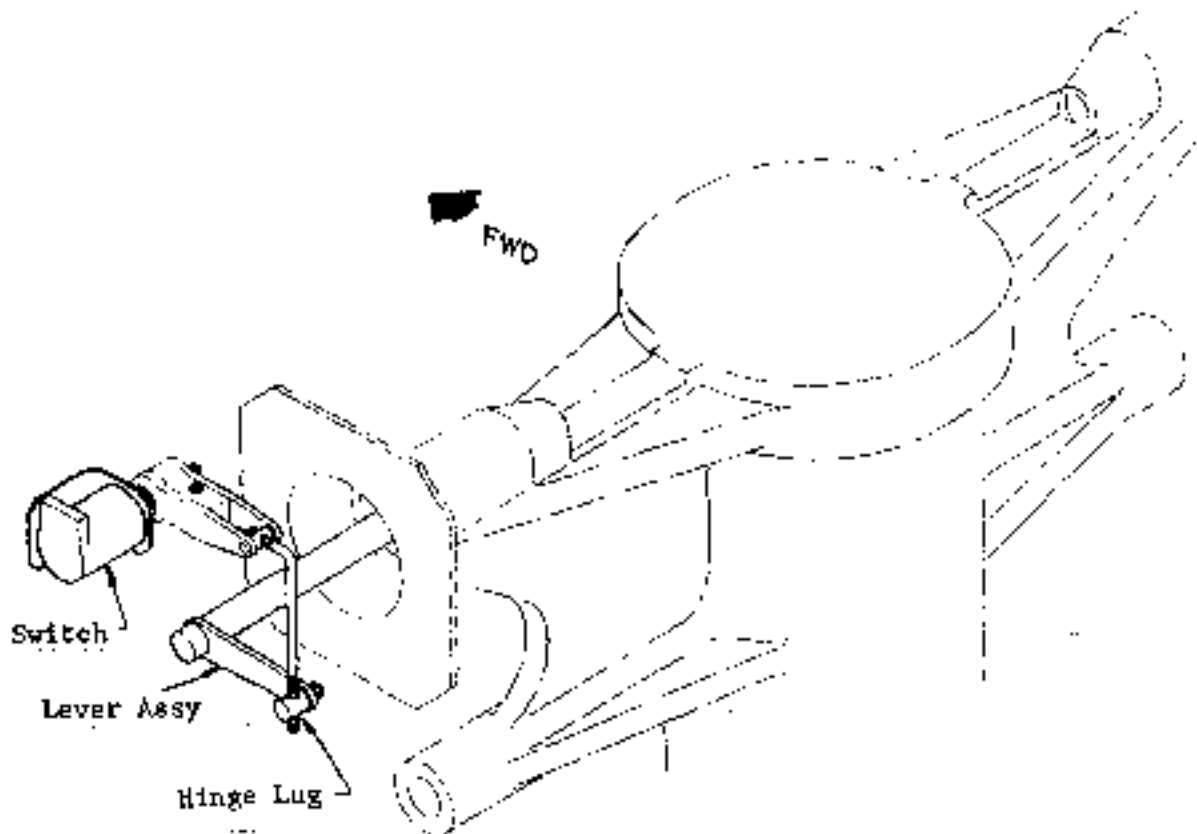

Fig. 4-13 Nose gear up indicator switch
2.8 NOSE LANDING GEAR UP INDICATOR SWITCH (See Fig 4-13)